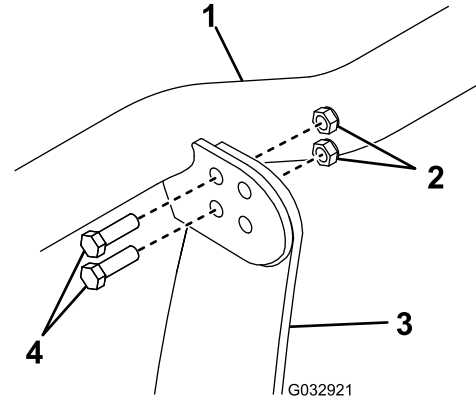

Figure 10
1. Secure the light bar to the top of the coupler tower through the rear holes using 4 bolts (3/8 x 1-1/4 inch) and self-locking nuts (3/8 inch) (Figure 10). Torque the bolts to 31 N·m (23 ft-lb).